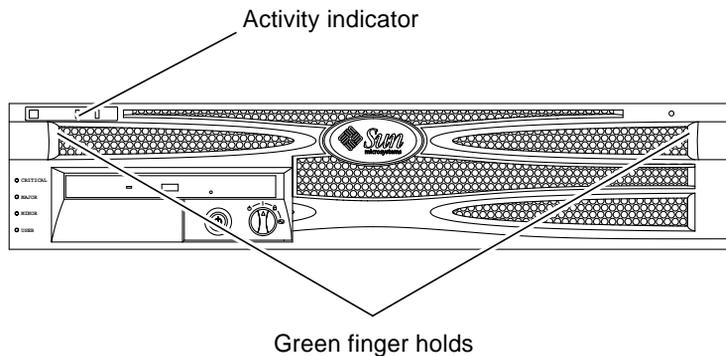

FIGURE 3-1 Finger holds on bezel
3. Grip the bezel at the two finger holds and rotate it down to its open position (FIGURE 3-1).
See FIGURE 3-1 for the location of the Activity LED.